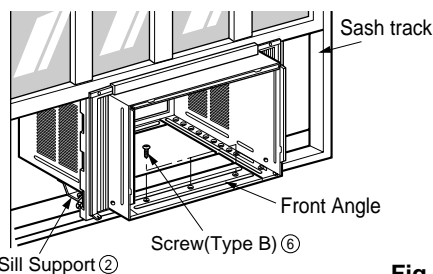

Fig. 5
- 6 The cabinet should be installed with a very slight tilt (about 1/2") downward toward the outside (See Fig. 5). Adjust the bolt and the nut of Sill Support 2 for balancing the cabinet.